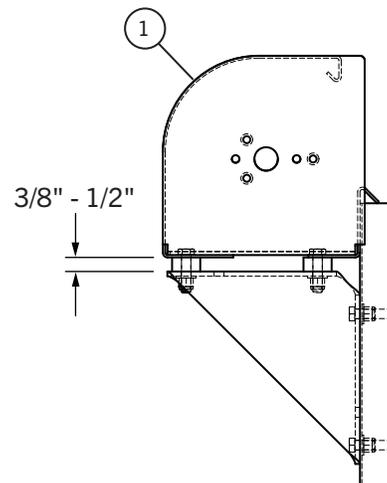

Figure 7-2
- 1) **Figure 7-2.** Turn tarp housing (1) upside down and position mounting bracket (2) 12" in from each end and flush with the back of the tarp housing (1) (not the end plates). Keeping brackets straight and parallel with end plates, mark holes through brackets
- 4) **Figure 7-2.** Hold housing up to trailer firmly, center on trailer and trace holes in mounting brackets. Drill marked holes using 17/32" drill bit.
- 5) Attach with 1/2-13 x 2 hex bolt (4), 1/2 flat washer (5), and 1/2-13 nylon hex nut (6).